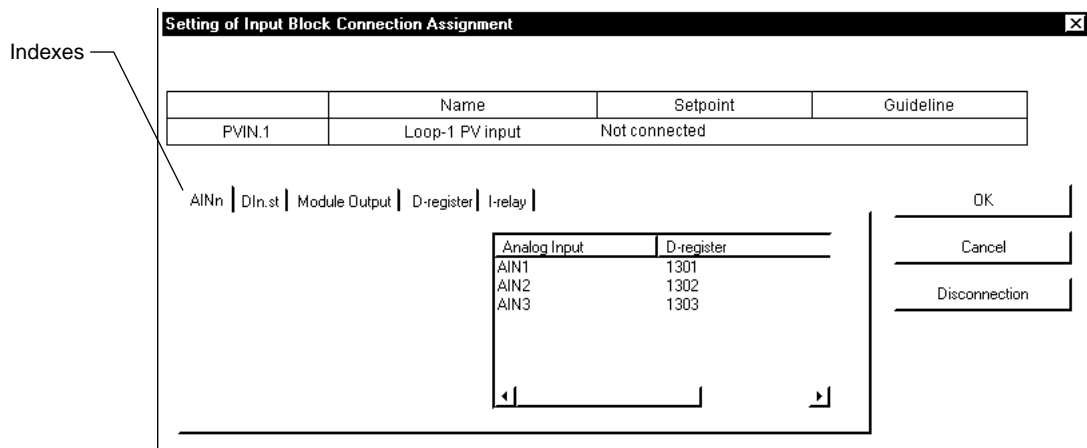

Figure 12.4.11 [Setting of Input Block Connection Assignment] Dialog Box
- ≠ From the tool menus, choose <Editing>, then <Connection>. The [Setting of Input Block Connection Assignment] dialog box (Figure 12.4.11) appears.